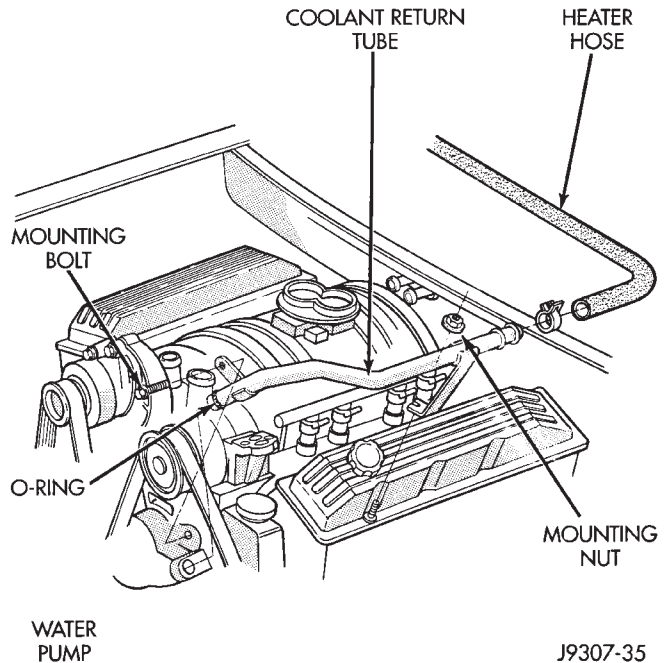
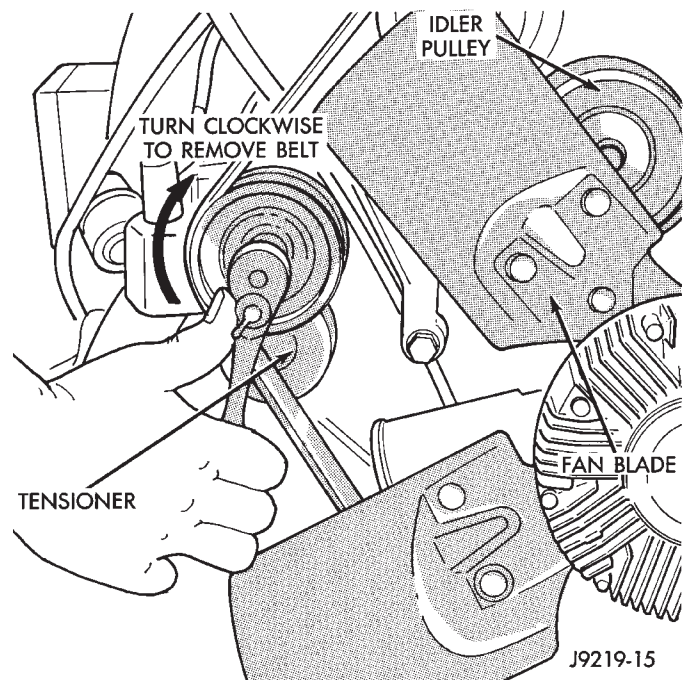

Fig. 54 Coolant Return Tube—5.2/5.9L Engines
Fig. 55 Belt Tensioner Assembly—5.2/5.9L Engines
(4) Unplug wiring harness from A/C compressor.
(5) Remove air duct at throttle body.
(6) Disconnect A/C lines from clip at intake manifold.
(7) Remove heater hose coolant return tube mounting bolt and nut (Fig. 54). Remove tube from engine and discard the old tube o-ring.
(8) Remove accessory drive belt as follows: The drive belt is equipped with a spring loaded automatic belt tensioner (Fig. 55). Relax tension from belt by rotating tensioner clockwise (as viewed from front) (Fig. 55). When all belt tension has been relaxed, remove accessory drive belt.
- (5) Install a new o-ring to the heater hose coolant return tube (Fig. 54). Coat the new o-ring with anti-freeze before installation.
- (6) Install coolant return tube to engine (Fig. 54). Be sure the slot in tube bracket is bottomed to the mounting bolt. This will properly position return tube.
- (7) Connect throttle body control cables.
- (8) Install oil dipstick mounting bolt.
- (9) Install idler pulley. Tighten pulley bolt to 54 N·m (40 ft. lbs.) torque.
- (10) Relax tension from belt tensioner (Fig. 55). Install drive belt.